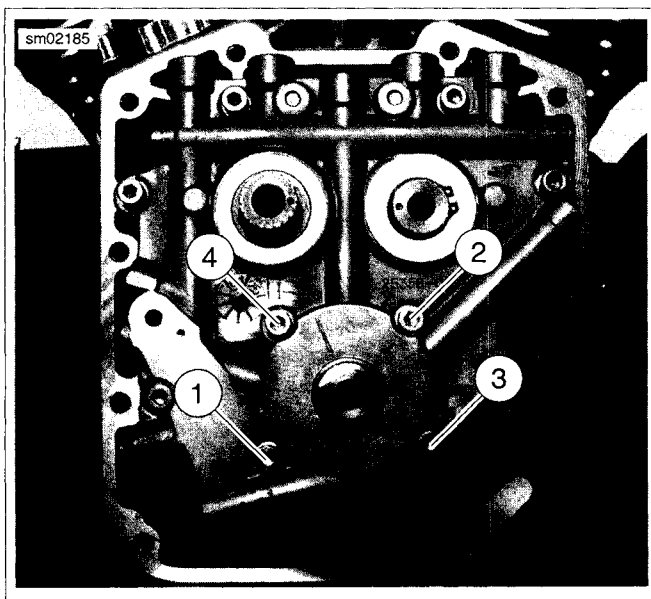

Figure 3-79. Oil Pump Torque Sequence
- See Figure 3-79. Install oil pump.